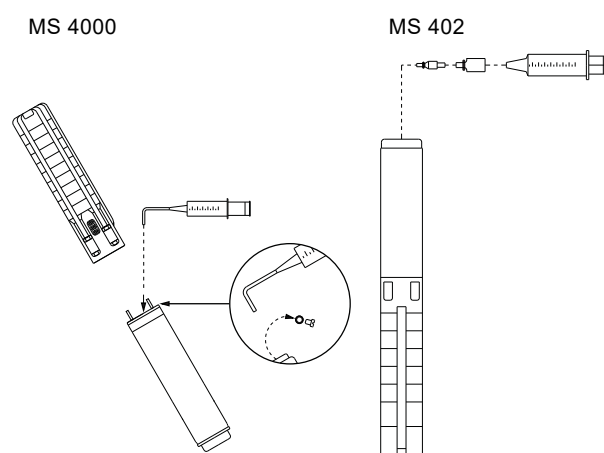

Fig. 2 Motor position during filling - MS 4000 and MS 402
1. Position the submersible pump as shown in fig. 2. The filling screw must be at the highest point of the motor.
3. Inject liquid into the motor with the filling syringe until the liquid runs back out of the filling hole. See fig. 2.